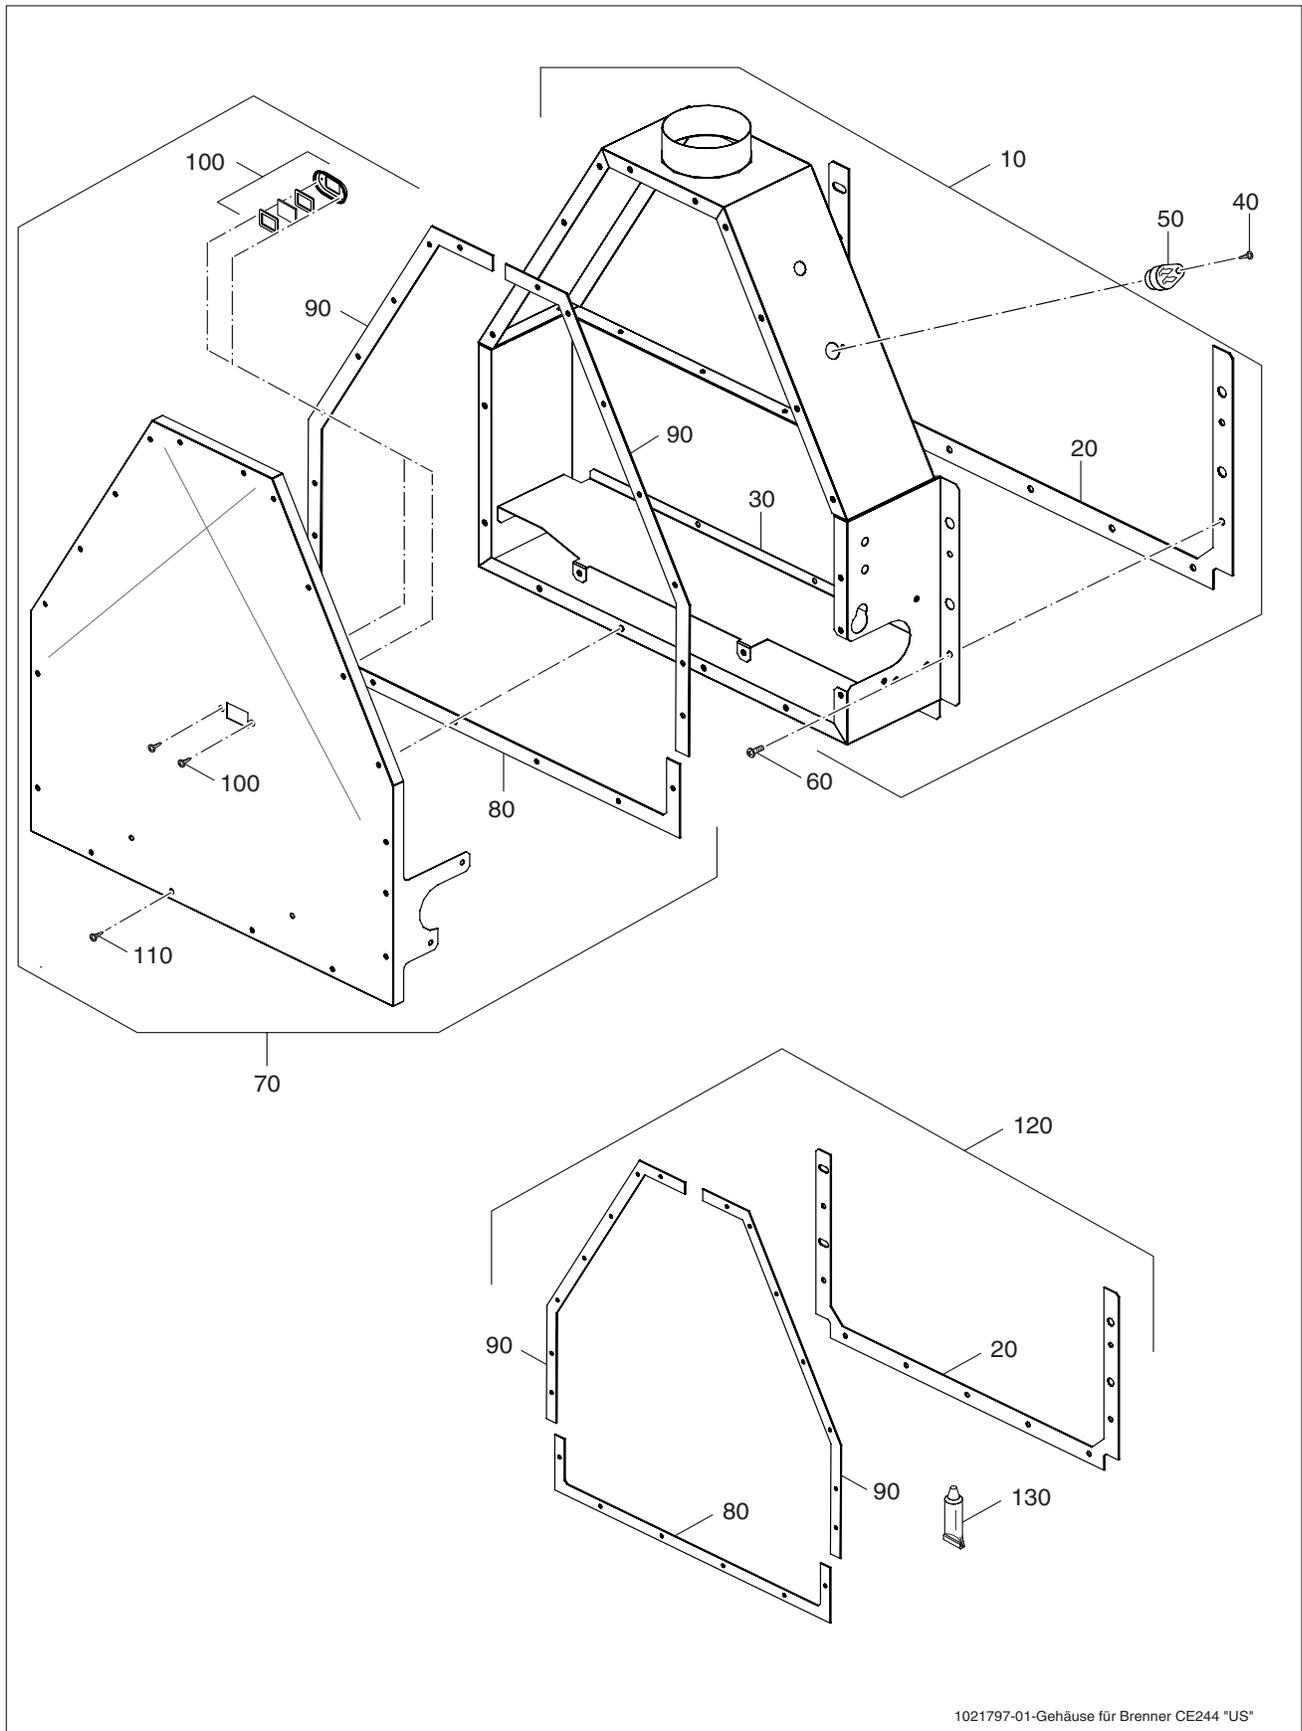

Fig. 44 Burner tray assembly
**Burner Tray Assembly (Fig. 44)**